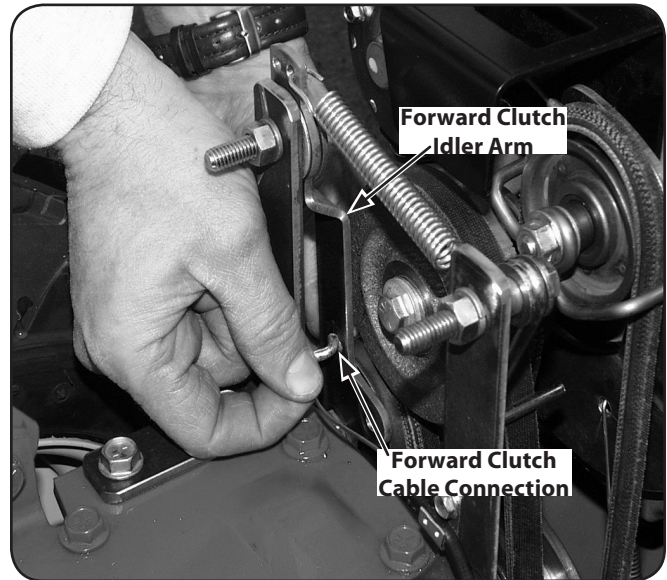

Figure 7-2
4. Disconnect the forward clutch cable from the forward clutch idler arm bracket. See Figure 7-2. Note the hole from which you disconnect the cable. It is important that you reconnect the cable to the same hole.
10. Reconnect the forward clutch cable to the correct hole in the idler arm bracket, as shown in Figure 7-2.